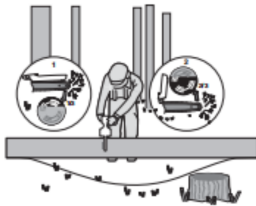

Fig.3
When the log is supported on one end, as illustrated in Figure 3, cut $\frac{1}{3}$ the diameter from the underside (under buck) (1). Then make the finished cut by over-bucking (2) to meet the first cut.